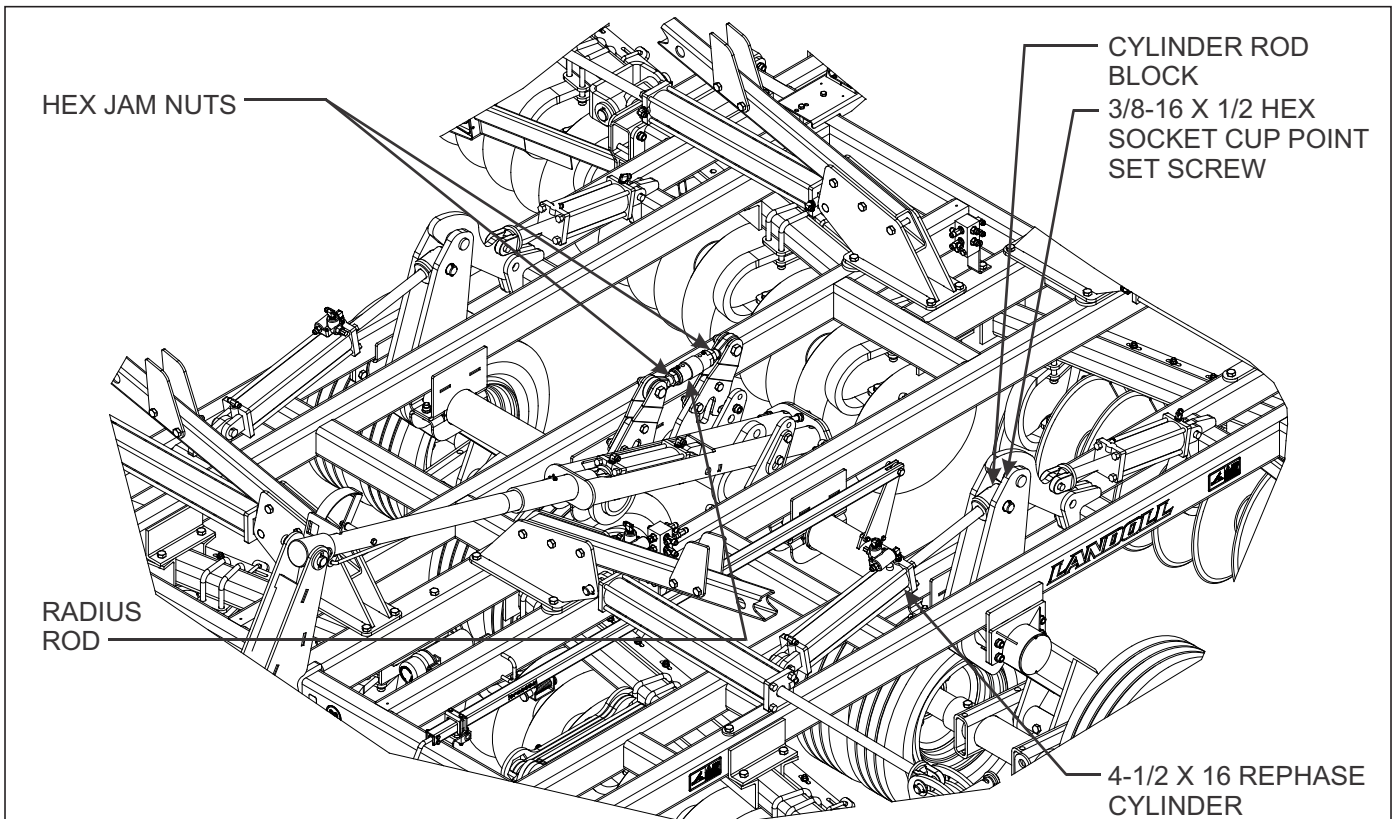

Figure 4-9: Leveling the Center Frame
- d. Measure the distance from the walking beam spindle to the top of the frame on both sides. If there is a difference, it needs to be adjusted by turning the cylinder rods at the clevis end (**See Figure 4-9.**)